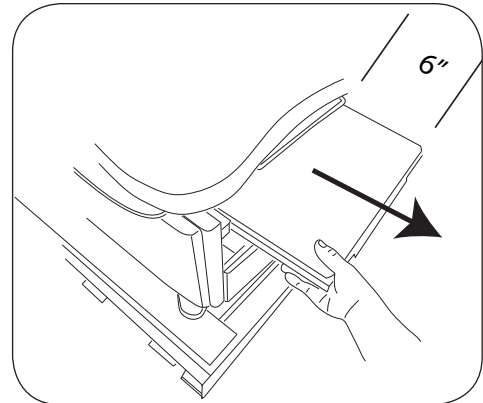

Figure 13. Leg Support Pulled Out 6"
13. Prepare the front of the table for lifting by pulling out leg support approximately 6" (Figure 13). DO NOT fully extend leg support as damage to the slide mechanism may occur.